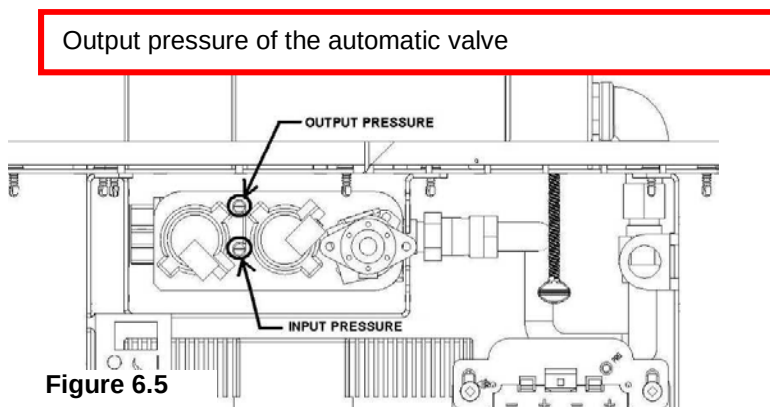

Figure 6.5
- Loosen the input "IN" and/or the output "OUT" pressure verification port(s) by turning counter clockwise with a 1/8 in. (3 mm) wide screwdriver (figure 6.5).